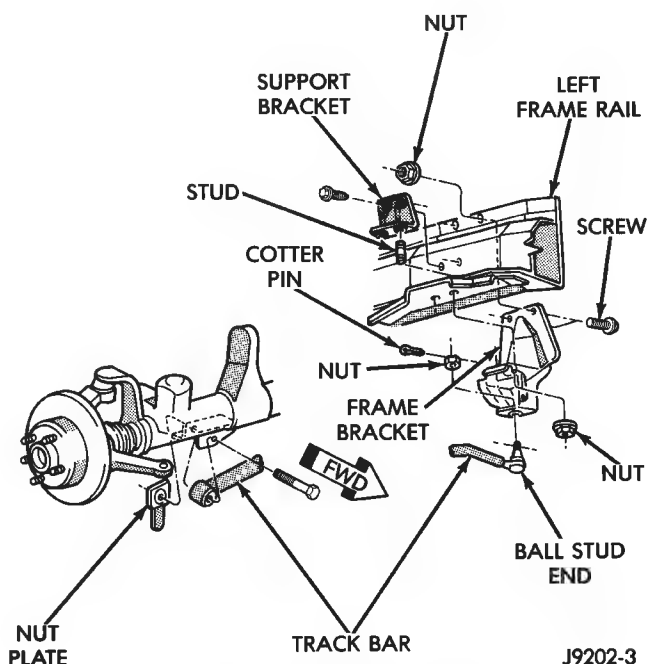

Fig. 1 Track Bar (LHD)
- (1) Raise and support the vehicle.
- (2) Remove the cotter pin and nut from the ball stud end at the frame rail bracket (Fig. 1).
- (3) Remove the bolt and flag nut from the axle shaft tube bracket (Fig. 1). Remove the track bar.
- (1) Install the track bar at axle tube bracket. Loosely install the retaining bolt and flag nut (Fig. 1).
- (2) It may be necessary to pry the axle assembly over to install the track bar at the frame rail. Install track bar at the frame rail bracket. Install the retaining nut on the stud (Fig. 1).
- (3) Remove the supports and lower the vehicle.
- (4) Tighten the retaining bolt at the axle shaft tube bracket to 100 N·m (74 ft. lbs.) torque.
- (5) Tighten the ball stud nut to 81 N·m (60 ft. lbs.) torque. Install a new cotter pin.